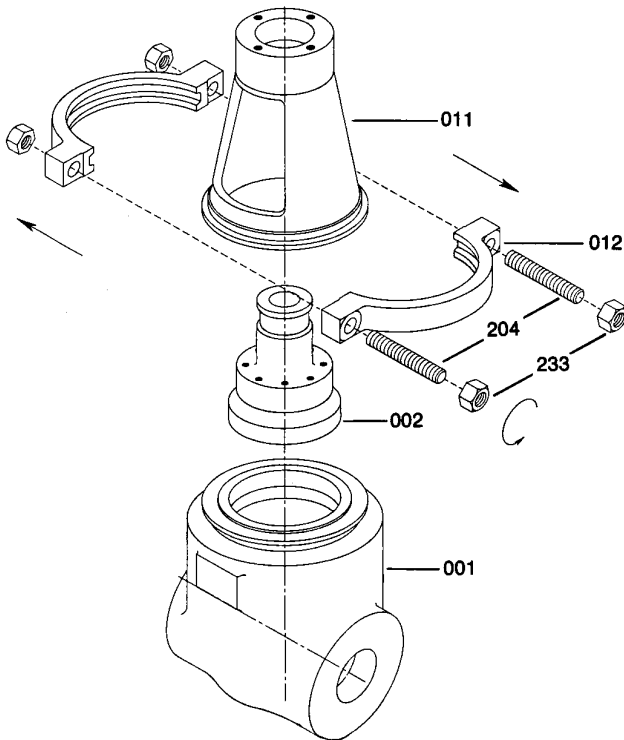

Figure 14
6.3.1 Unbolt the yoke clamp bolting (204 & 233) and remove the yoke clamp (012). (It is advisable to thread the yoke clamp back together to prevent losing the parts.) The yoke (011) is now free to be lifted directly from the valve (See Fig. 14)
6.3.1 Unbolt the yoke clamp bolting (204 & 233) and remove the yoke clamp (012). (It is advisable to thread the yoke clamp back together to prevent losing the parts.) The yoke (011) is now free to be lifted directly from the valve (See Fig. 14).